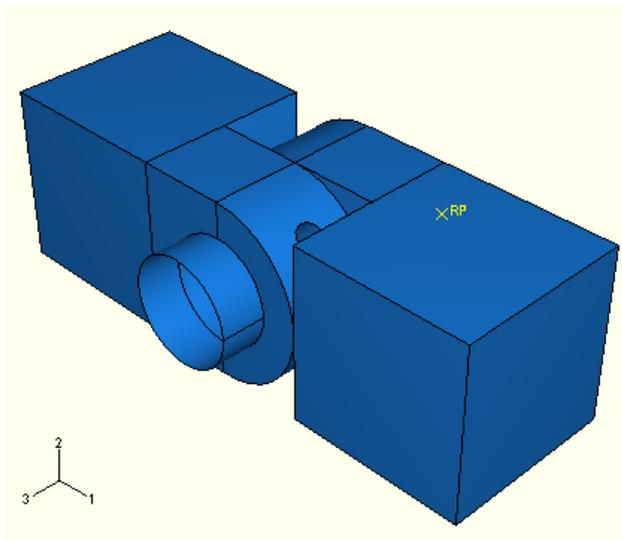

Figure C-51 The partitioned model.
7. Select **Assembly** in the **Object** field of the context bar to display the model assembly in the viewport. The model assembly with all the partitions is shown in Figure C-51.